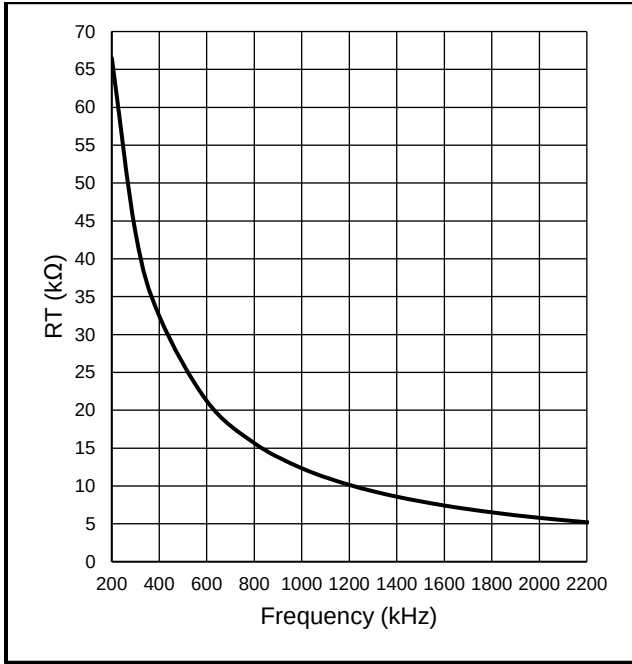

Figure 10-5 RT and Switching Frequency Relationship
A resistor from RT to AGND is needed to set target switching frequency. **Equation (3)** and **Figure 10-5** can be used to determine the resistance. If synchronization to an external clock is needed, do not apply the signal to RT pin. Instead, EN/SYNC can be used for external clock synchronization.